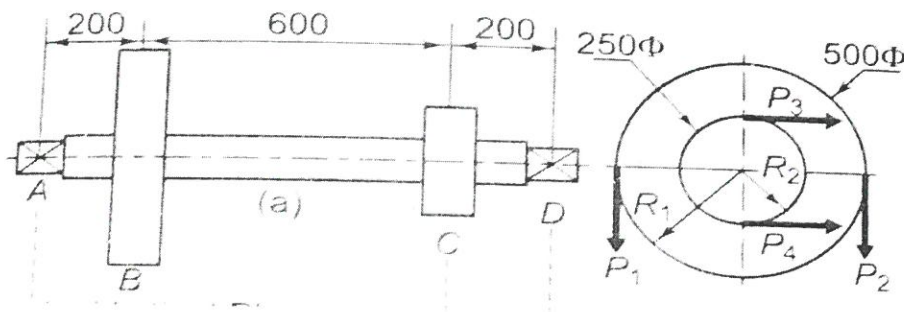

Fig. 3a Layout
- (a) The layout of transmission shaft carrying two pulleys B & C and supported on bearing A & D is shown in fig. 3a Power is supplied to the shaft by means of a vertical belt on pulley B that is then transmitted to pulley C carrying a horizontal belt. The maximum tension in belt on pulley B is 2.5 kN. The angle of wrap for both the pulleys is 180° and coefficient of friction is 0.24. The shaft is made of plain carbon steel 30C8 ($S_{yt} = 400 \text{ N/mm}^2$) and the factor of safety is 3. Determine the shaft diameter on strength basis. 10 Marks CO_3 3